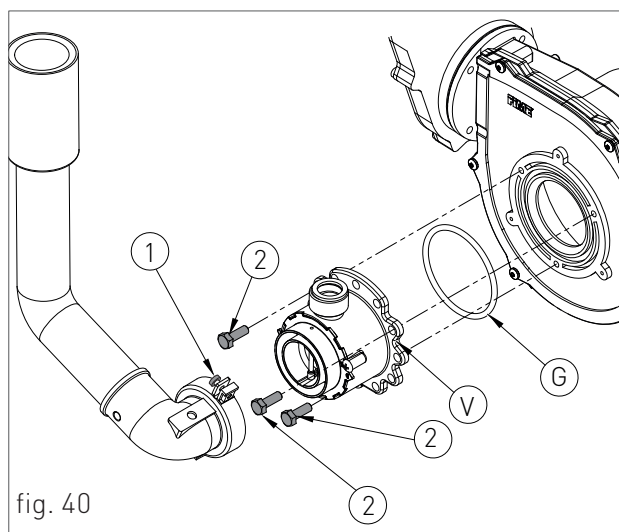
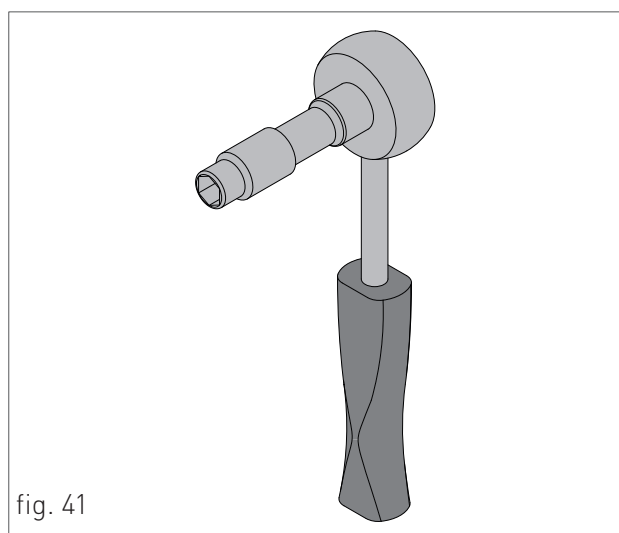

fig. 40
fig. 41
- › loosen the two screws '1' (fig.40) from the fastening bush, and remove the air suction tube;
- › unscrew the three fastening screws '2' (fig.40) of the venturi 'V' (fig.40) using a 10 key, as shown in figure 41;
- › remount the components following the demounting operations in reverse making sure that gasket 'G' is re-assembled as shown in fig.40;